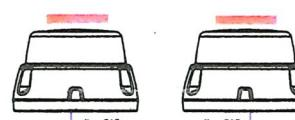

Fig 1. Operation in phase - lights flash in the same time
3. The remaining two wires (yellow "A" and blue "B") are used to synchronise lights. There are two possible configurations, shown on Figures 1 and 2 below.